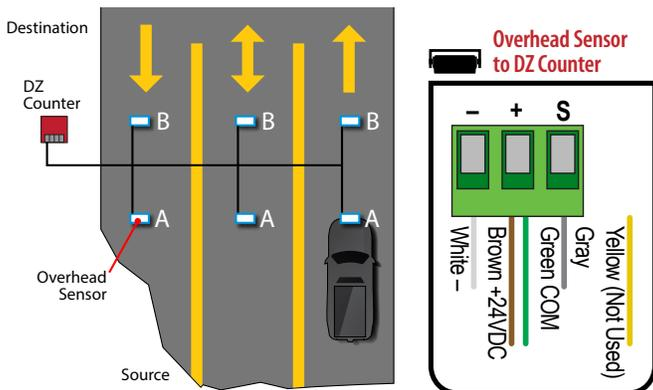

Figure 4-2. Overhead Sensor Wiring
- Connect each Sensor's communication and power to one of the eight (8) Sensor Input Ports on the DZ Counter. Wire as shown (refer to Figure 4-2)
- Wire Overhead Sensors to the DZ Counter as bidirectional pairs. Each transition point, will have the ability to count "INs" and "OUTs". (refer to Figure 4-2)
Note: DZ Counter is agnostic to traffic direction. Observe proper A/B direction logic as shown. (refer to Figure 4-2)
Overhead Sensor setup uses bidirectional counting logic. This configures the eight (8) Sensor Input Ports on the DZ Counter into pairs (A1,B1),(A2,B2) etc. (refer to Figure 4-2)